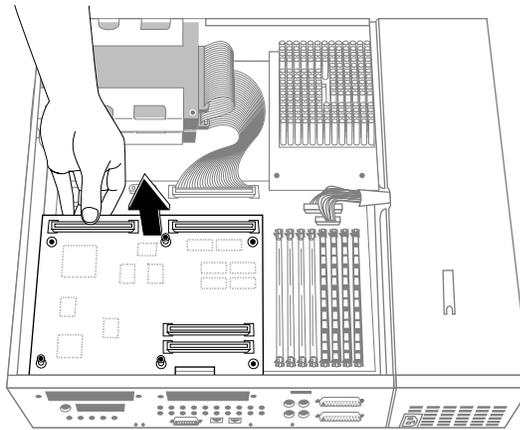

Figure 1-12 Disconnecting the Graphics Board
3. Disconnect the graphics board from the system board, as shown in Figure 1-12.